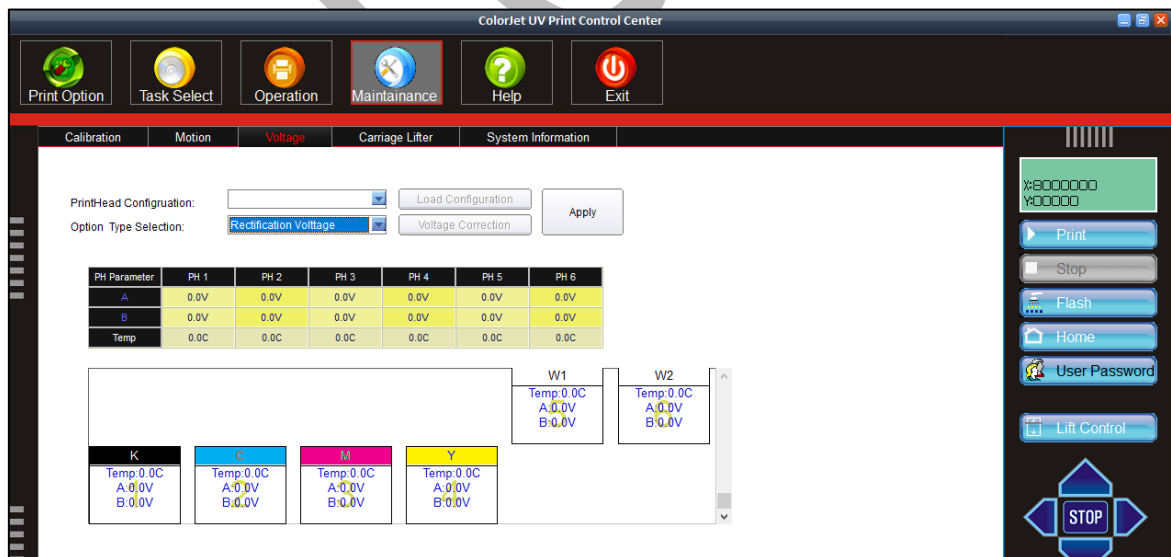

Fig 37: Displaying the Voltage Tab
Step 1: Click on the **Maintenance** menu (Refer to Fig 37).